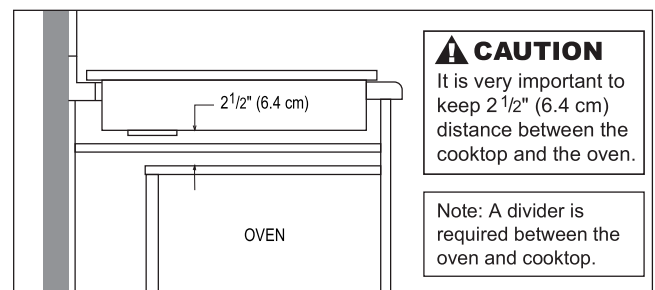

Figure 6
4. Make sure the wall coverings, countertop and cabinets around the cooktop can withstand heat (up to 200°F) generated by the cooktop. It is very important to allow sufficient space under the cooktop. If under the cooktop has insufficient space, the temperature may become too high and affect performance. See Figure 6.